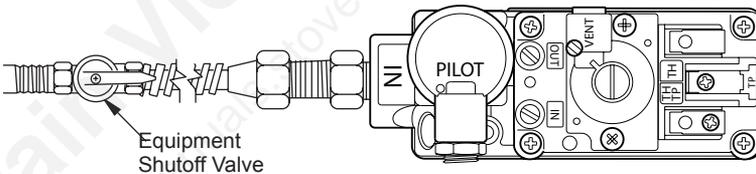

Figure 33 - Turning Equipment Shutoff Valve to the OFF Position
5. Turn equipment shutoff valve clockwise ↻ to the OFF position (see Figure 33). Do not force.
6. Wait five (5) minutes to clear out any gas. Then smell for gas, including near the floor. If you smell gas, STOP! Follow "B" in the safety information page 22. If you don't smell gas, go to the next step.
- Turn the adjustment screw marked PILOT clockwise to decrease or counterclockwise to increase the flame to proper size (see Figure 33, page 23). Do not remove the adjustment screw.